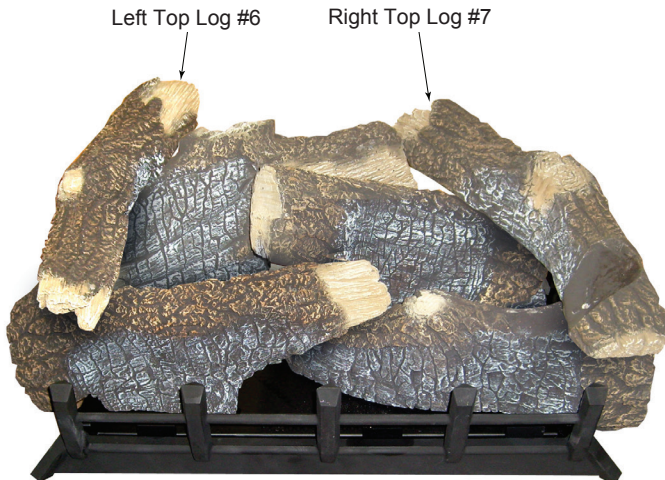

Figure 34
- Place top left log (#6) on left rear log (#4) and left front log (#5) using locating grooves on bottom of #6 and locating blocks on logs #4 and #5. *Figure 34*
- Place right top log (#7) on right rear log (#3) and right front log (#2) using locators on the bottom of log #7 and locators on logs #2 and #3. *Figure 34*